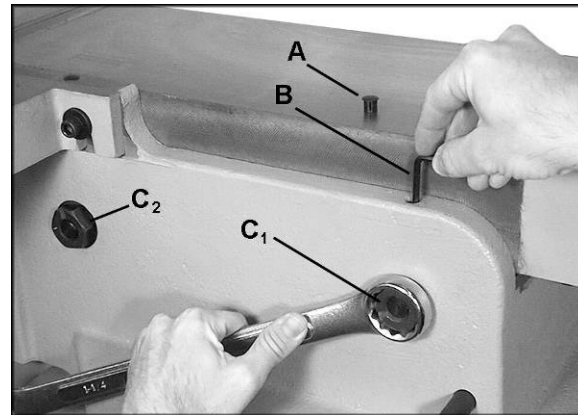

Figure 22
9. Each table has four cam adjustment devices; two in front and two in back. (C, Figure 22 shows one of these).
10. At the area of the table where the adjustment must be made, pry out the cap (A, Figure 22) from the hole.
11. There are two set screws in the hole. Insert a 4mm hex wrench (B, Figure 22) into the hole and loosen the upper set screw by turning the hex wrench counterclockwise. Remove the upper set screw from the hole.
13. Turn the hex nut (C₁, Figure 22) with a 1-1/4" wrench. **This adjustment is sensitive and should be made in small increments.**
NOTE: The rotation is different for left and right hex nuts; the right hex nut (C₁) being turned in Figure 22 will be turned clockwise to raise that area of the table, or counterclockwise to lower that area of the table. The left hex nut (C₂) shown in Figure 22 would be rotated in the opposite manner.
15. When the adjustment is satisfactory, with the tables now coplanar, tighten the lower set screw with the hex wrench (B, Figure 22).
17. Re-insert the cap (A, Figure 22) to keep dust and debris out of the hole.